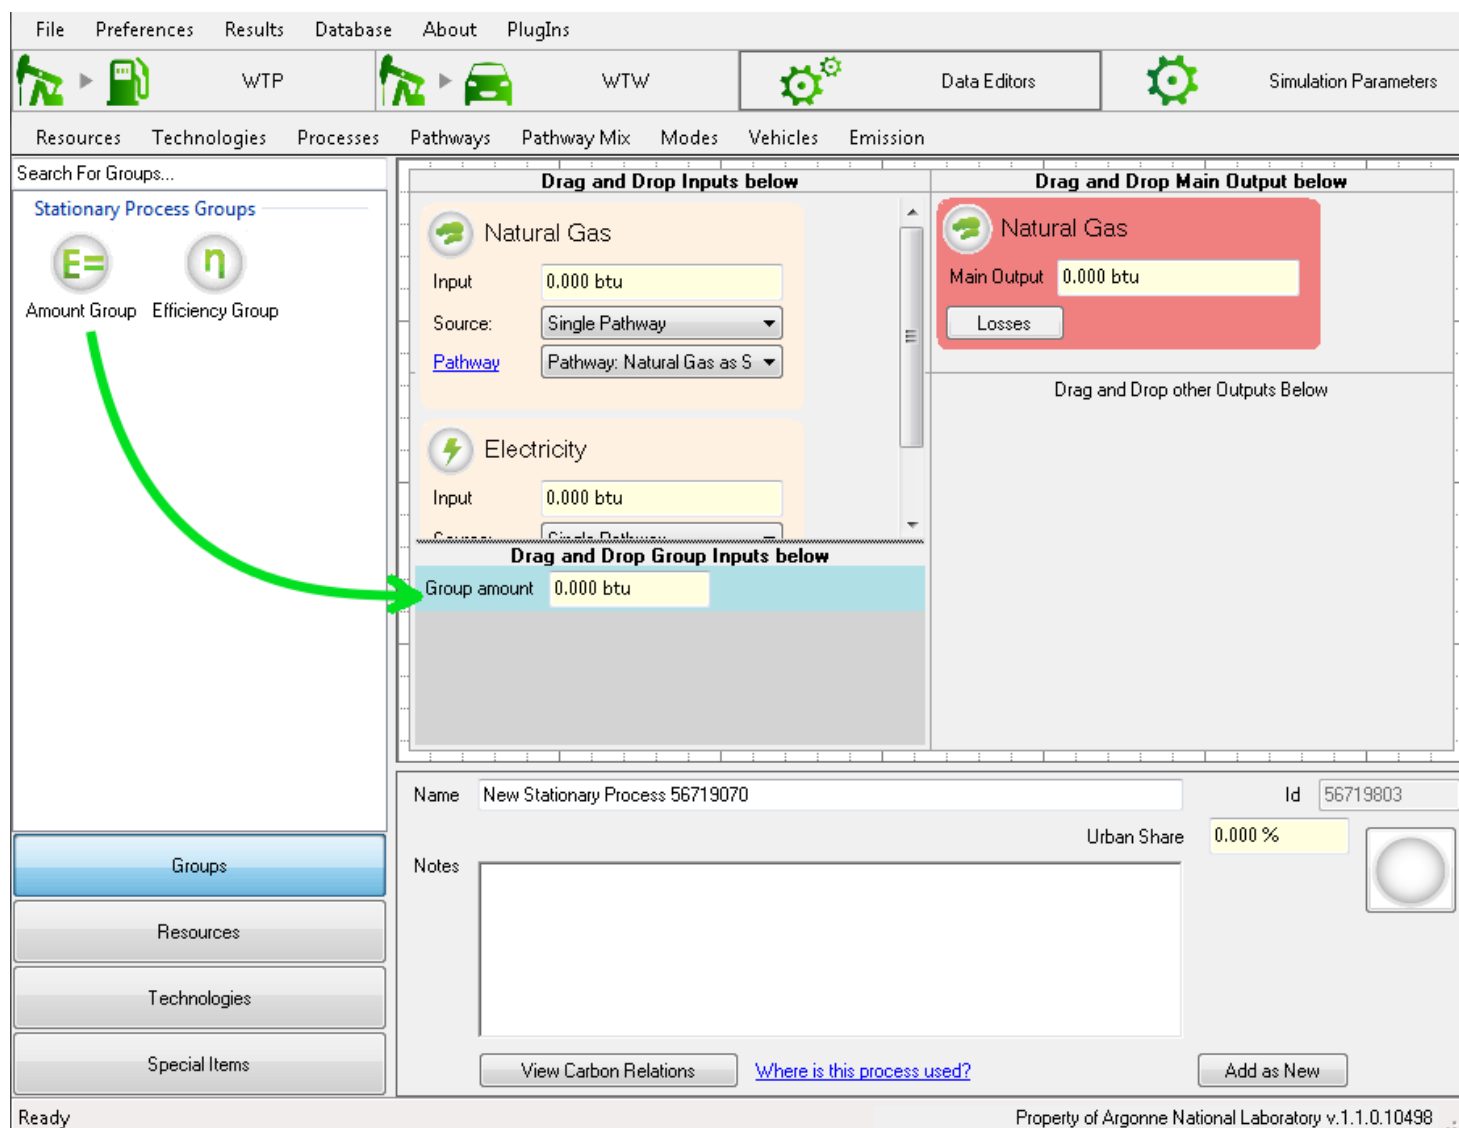

Figure 39: Drag and Drop an Amount Group
- The second way is to create a group and place one or more inputs into that group and assigning them a share, Review Figure 39.
NOTE: Figures 39 shows what is needed to add inputs to a group.